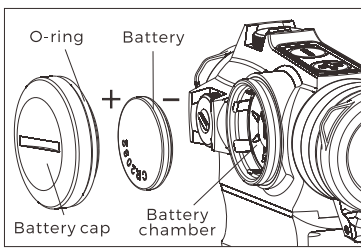

Fig3-2
Battery Installation(Fig3-2):
- 2) Insert the battery into the battery chamber with the right marked polarities "+" "-". See Fig3-2. Take the waste battery out for replacement.